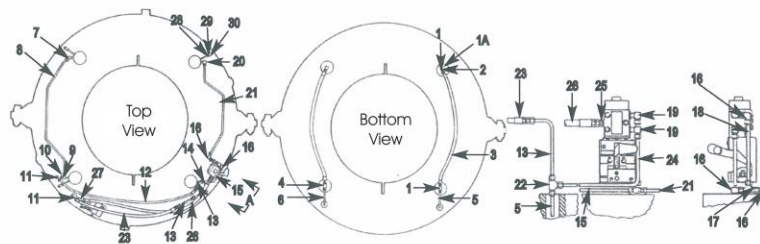

Figure 6-1. 500 Ton Elevator/Spider Assembly
- #### c. Elevator/Spider Assembly (Figure 6-1 or 6-2)
8. Install pneumatic lines as indicated in Figures 6-1 or 6-2.